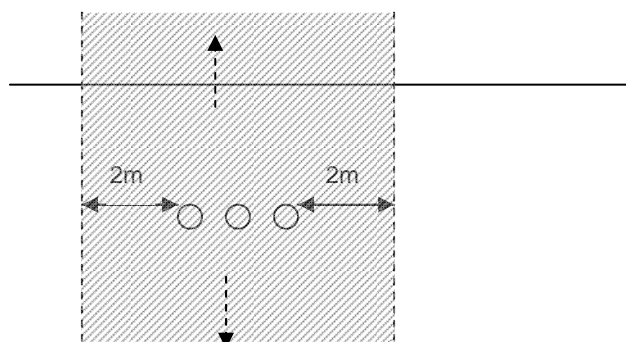

Figure 1 –
- Any work below the surface level and within 2 metres either side of any *transmission cable* or associated pilot cable. See Figure 1 below.